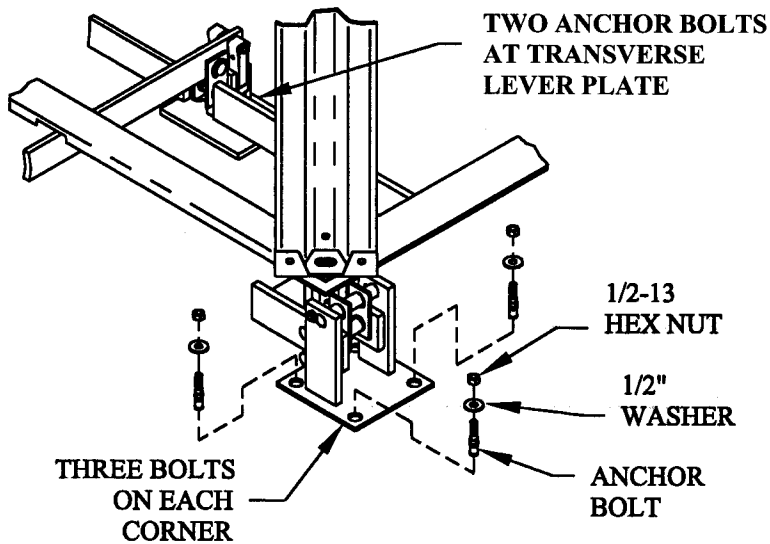
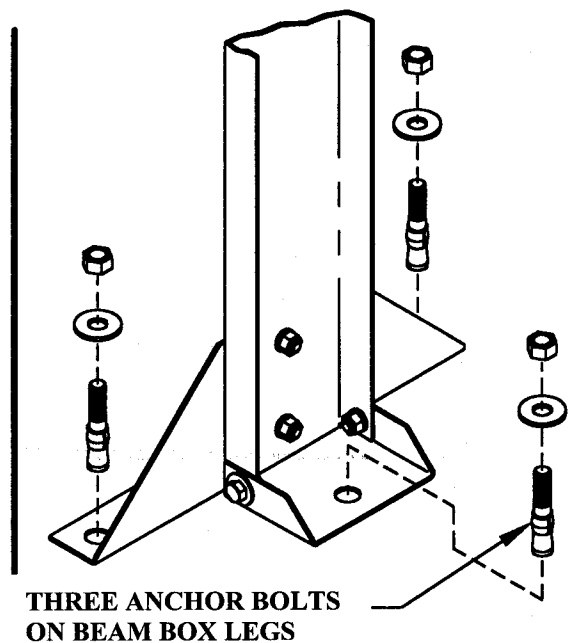

FIG. 18A
FIG. 18B
STEP 18. Tighten anchor bolts that are already in place or remove rods (whichever were used, see Step 12). Use a hammer drill to drill holes for anchor bolts. It is only necessary to use three at each of the four corners. There should be two at the transverse lever plate. See Fig. 18A. At the beam box legs (2) there should be three anchor bolts at each leg. See Fig. 18B. Make sure that all of the parts are still square and free hanging, as well as the steelyard rod being level front and sideways. The nuts provided for tightening the bin down can now be tightened.